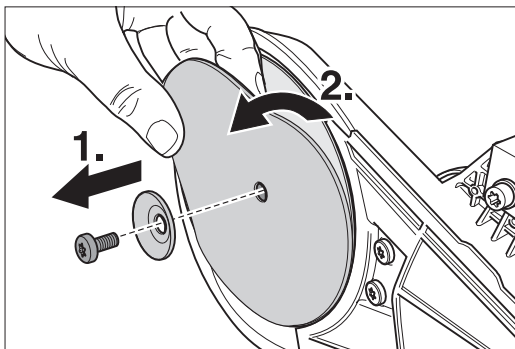

Fig. 11 ... after removing, take off the paper faceplate, ...
- 5 Rotate the fixing screw all the way out. Remove the paper tensioning disc from the sanding plate and put these parts aside (Fig. 11).